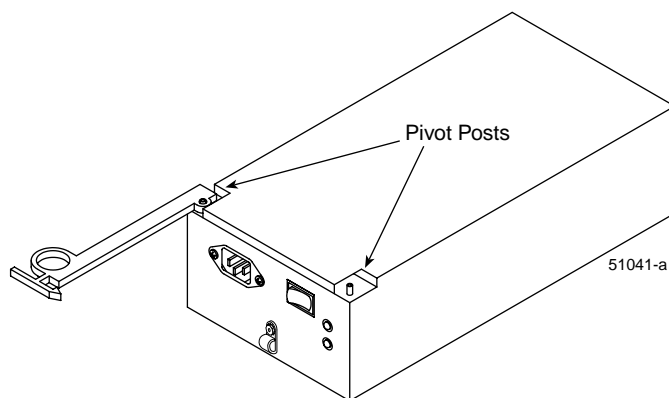

Figure 7-5 Lever on Power Supply Canister
10. Check the lever to make sure the orientation is the same as the canister it is replacing. If not, move the lever to the pivot post on the other side (see Figure 7-5).